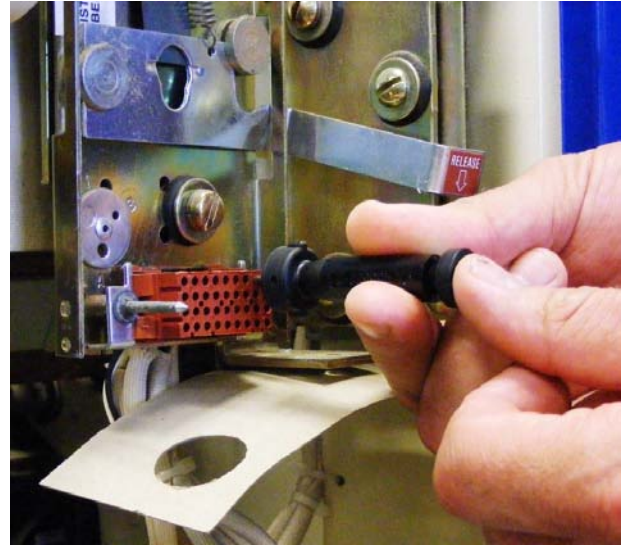

FIGURE 3, REMOVING UNNEEDED WIRES FROM CONNECTOR
4.7. To remove a contact from the connector, place the extraction tool into the cavity from the front of the connector as shown in figure 3. Press extraction tool firmly into the connector then depress the plunger. Note that if the tool is not pressed firmly into the connector before the plunger is depressed, the contacts being extracted will be damaged.